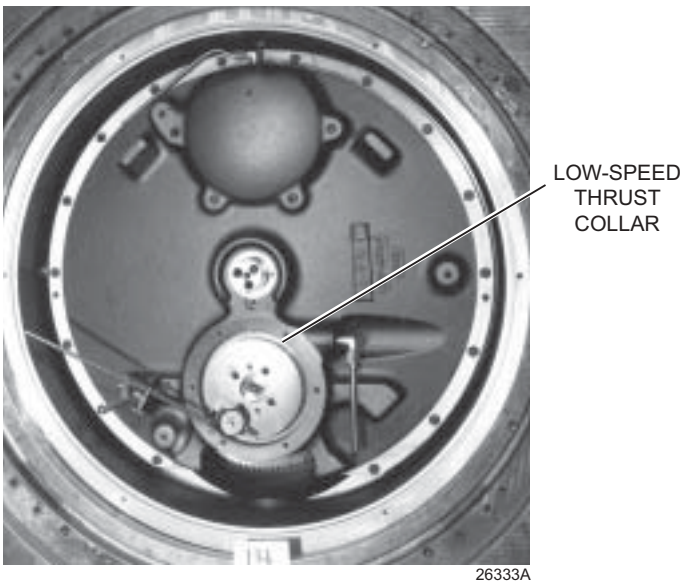

FIG. 31 – CHECKING LOW-SPEED THRUST RUNOUT
2. Before removing the low-speed thrust collar mount an indicator, as shown in FIG. 31, and check the runout of the thrust collar. Maximum runout should not exceed .001" T.I.R. (It will be necessary to remove the shaft locking tool in order to take this measurement.)